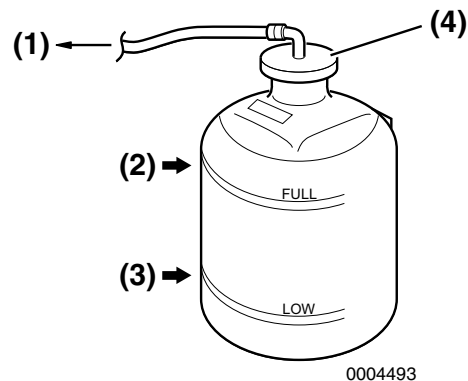

Figure 13
5. Check the coolant level in the reservoir. The level should be at the FULL mark (**Figure 13, (2)**). Add coolant if necessary.
6. Remove reservoir cap (**Figure 13, (4)**) to add coolant if necessary. Do not add water.
8. Check the rubber hose (**Figure 13, (1)**) connecting the reservoir to coolant tank/heat exchanger. Replace if damaged.